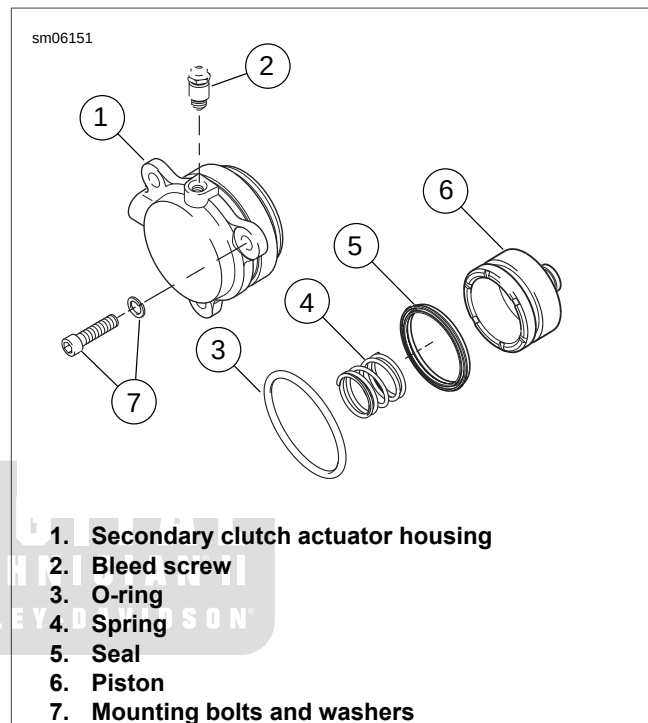

Figure 2-34. Secondary Clutch Actuator Components
1. See Figure 2-34. Coat cylinder bore, piston, O-ring, and bleed screw with lubricant from service kit.
2. Install a **new** seal (5) with square split lip toward rider side of actuator and fit to piston (6).
4. Install a **new** O-ring (3) into groove at base of secondary clutch actuator housing (1).
5. Fit **new** O-ring (3) to bleed screw (2) and loosely install into housing.